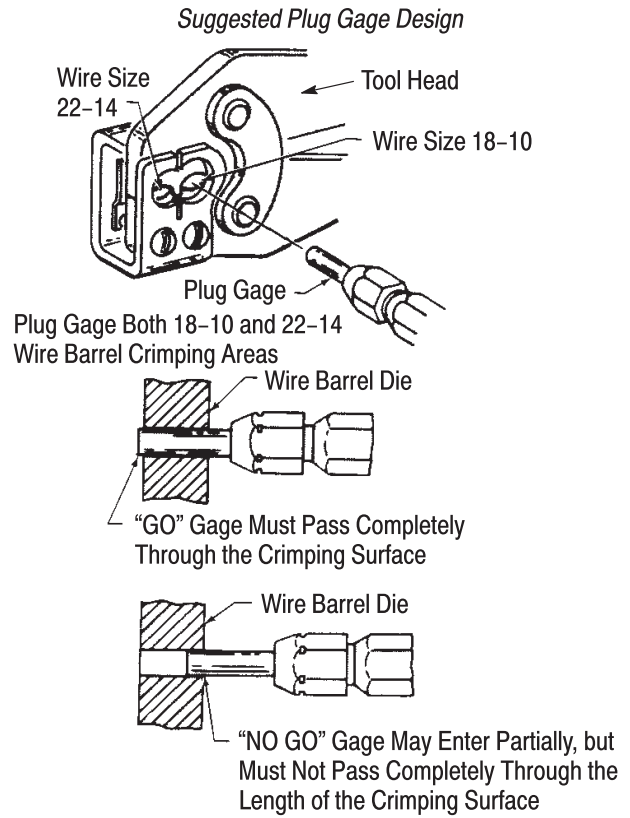

Figure 7
3. Measure closure of both the 22–14 (small) and 18–10 (large) wire barrel crimping areas of the tool using the proper plug gage. Hold gage in straight alignment with the tool and carefully try to insert, without forcing the GO element, and then the NO GO element. See Figure 7. The GO element must pass completely through the length of the crimping surface.